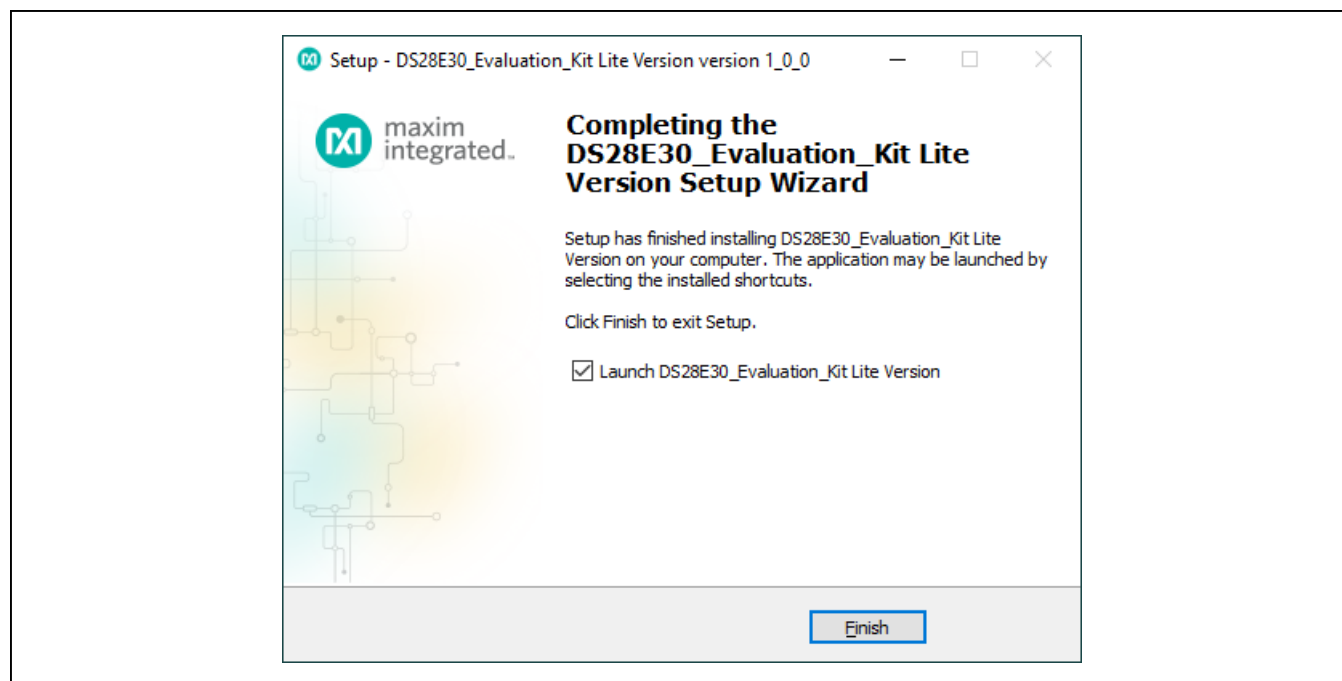

Figure 5. Run Software After Installation
- 6) Select the Launch DS28E30_Evaluation_Kit Lite Version check box, then click **Finish** to open the program (Figure 5).